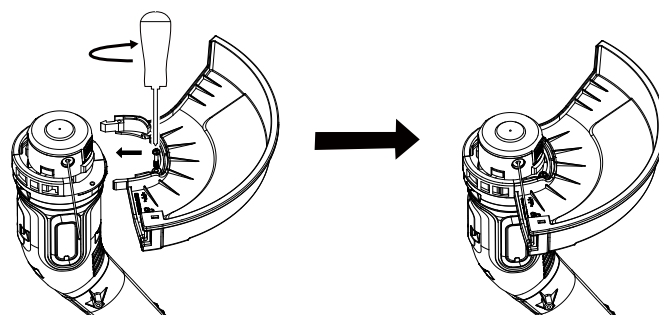

Fig. 1
2. Insert the anti-lost screw through the grass deflector and into the work head (Fig. 1).